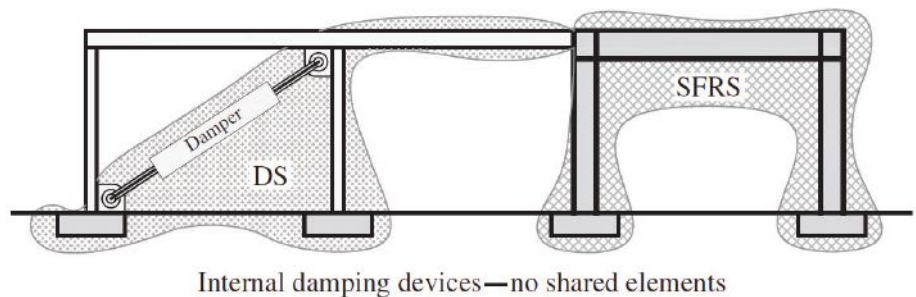

Fig. 2. Steel special moment frame with supplemental damping system.
There is another way to protect structures during a seismic event and prevent extensive damage to the special moment frame beams. Supplemental damping can be provided through the application of velocity-dependent devices that are used solely for resisting the kinetic energy of the building caused by seismic excitation. A typical configuration of the steel special moment frame and the damping system (DS) is shown in Figure 2. The DS is defined as the damping devices and all other components required to connect damping devices to the other elements of the structure. These devices remain damage-free during a maximum credible earthquake.